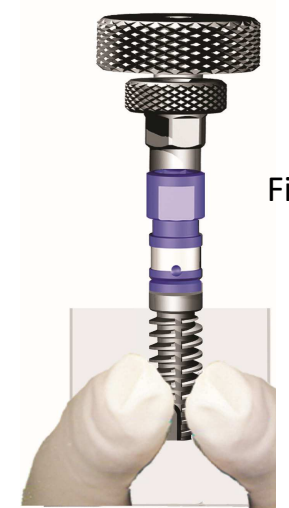

Fig.3
- Place the Taper Post end of the Carrier Insert through the Implant Mount and into the Implant, apply pressure to the Carrier Insert Knob to firmly engage the Implant. Bring the Carrier Sleeve toward the Implant Mount until it barely touches it Fig.3